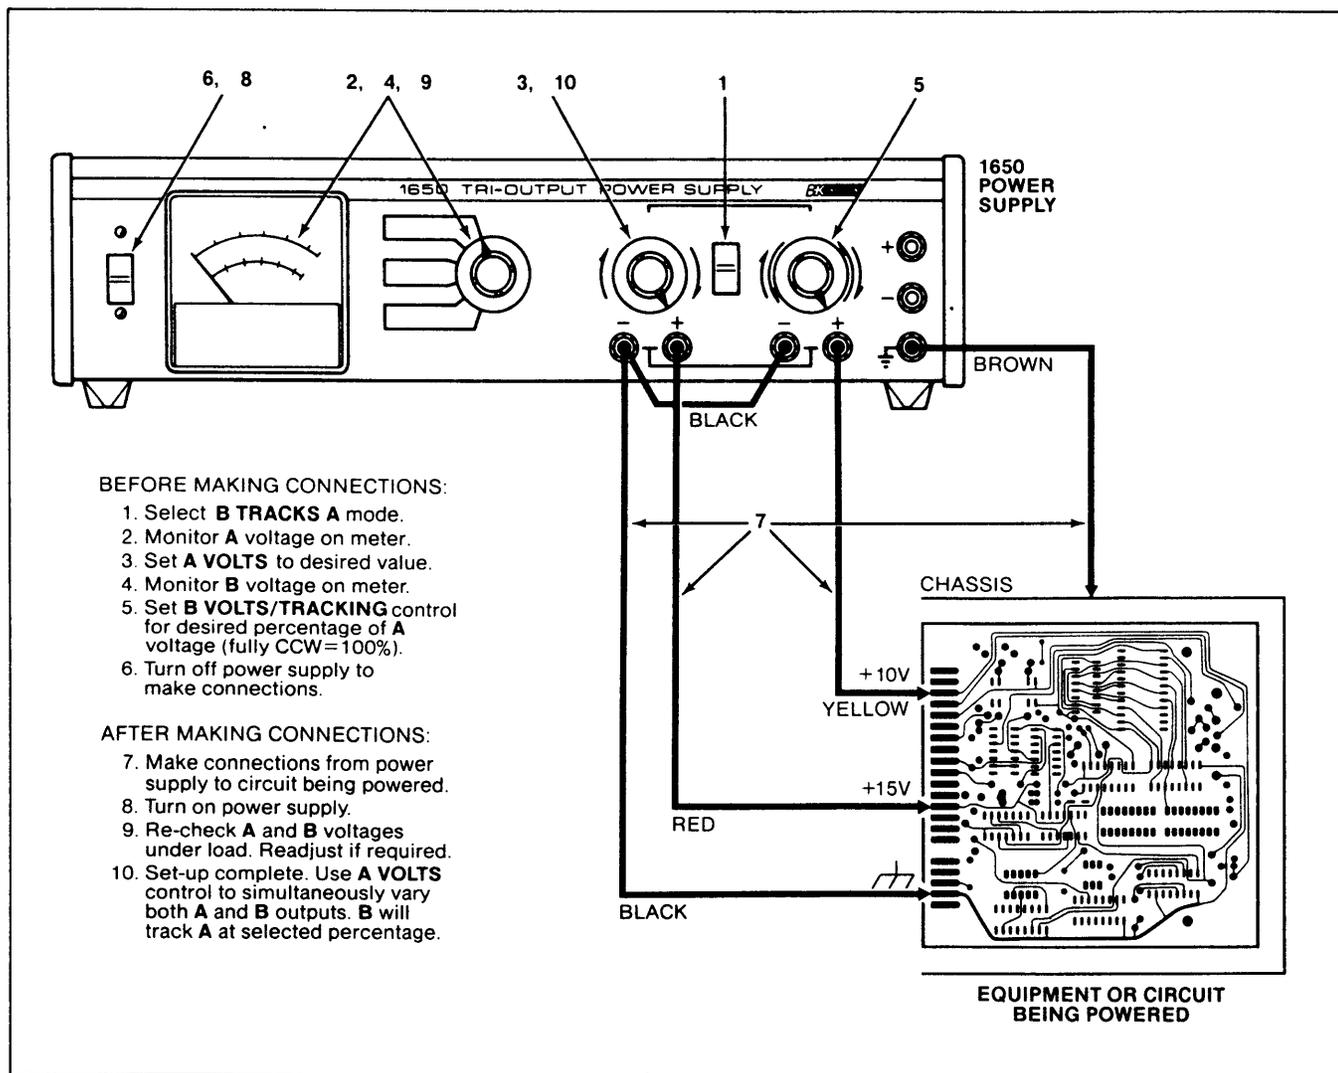

Fig. 9. Set-up procedure for tracking mode.
Procedure (Refer to Fig. 9)
7. Make connections between the supplies and the circuit being powered. Connections are the same as previously described for independent operation. Figs. 9, 10, and 11 show some typical examples.